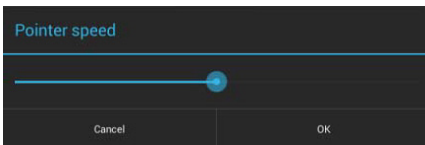

**FIG. 92** Keyboard Layout window
8. Press the return icon to close the *Keyboard Layouts* window and open the *Choose Keyboard Layout* window (FIG. 92):